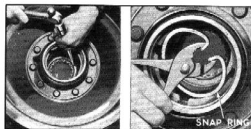

Fig. 17—Removing Outer Bearing Snap Ring
6. To remove the outer bearing, first tap the outer race to relieve the tension at the snap ring; then remove the snap ring on the inside of the hub, Fig. 17. Remove the bearing by driving on the